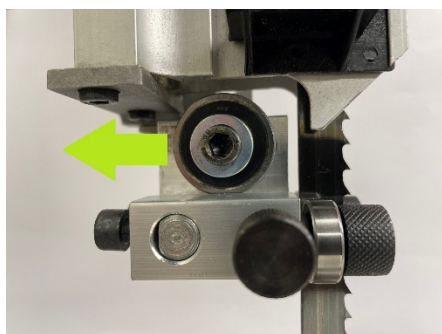

Figure 32
- Move the bearing back. (Fig 32)